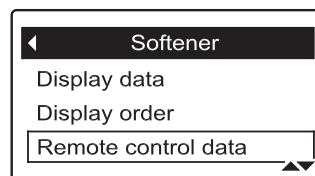

FIG. 118
3. Press the DOWN (▼) button to scroll through the menu options until **Remote control data** is highlighted in a box (See Figure 118).
8. When selections are complete, exit this menu by pressing the LEFT (◀) button. The display will go back to the device menu (Figure 118).